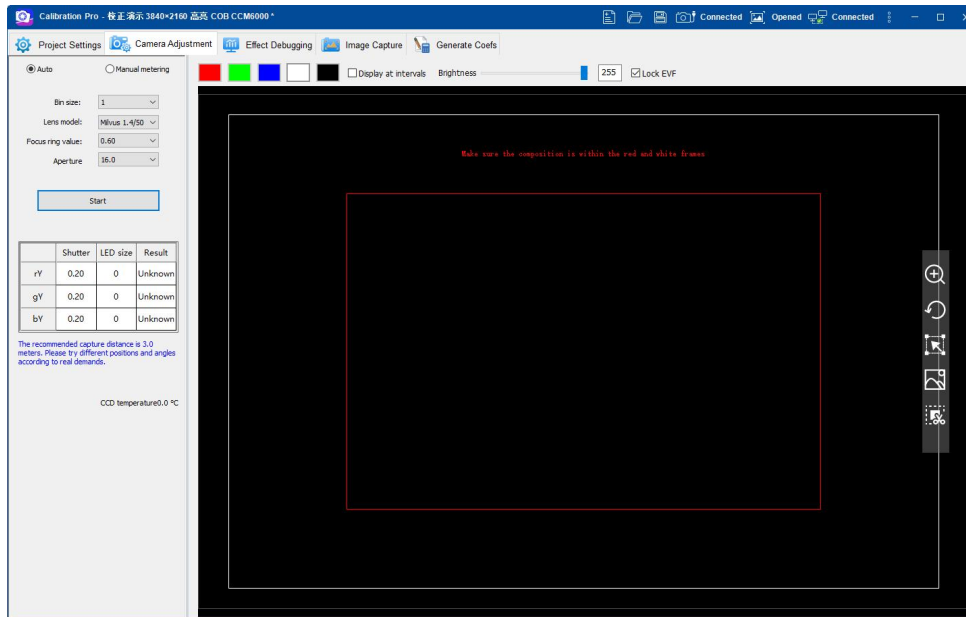

Fig.3-47 Adjust camera for framing
- 2) Select the central partition of the screen as the area for adjusting camera. Adjust the camera's capturing distance so that the shooting area aligns with and fills the camera frame. (Make sure the shooting view is between the red and white frames.) See Figure 3-47.